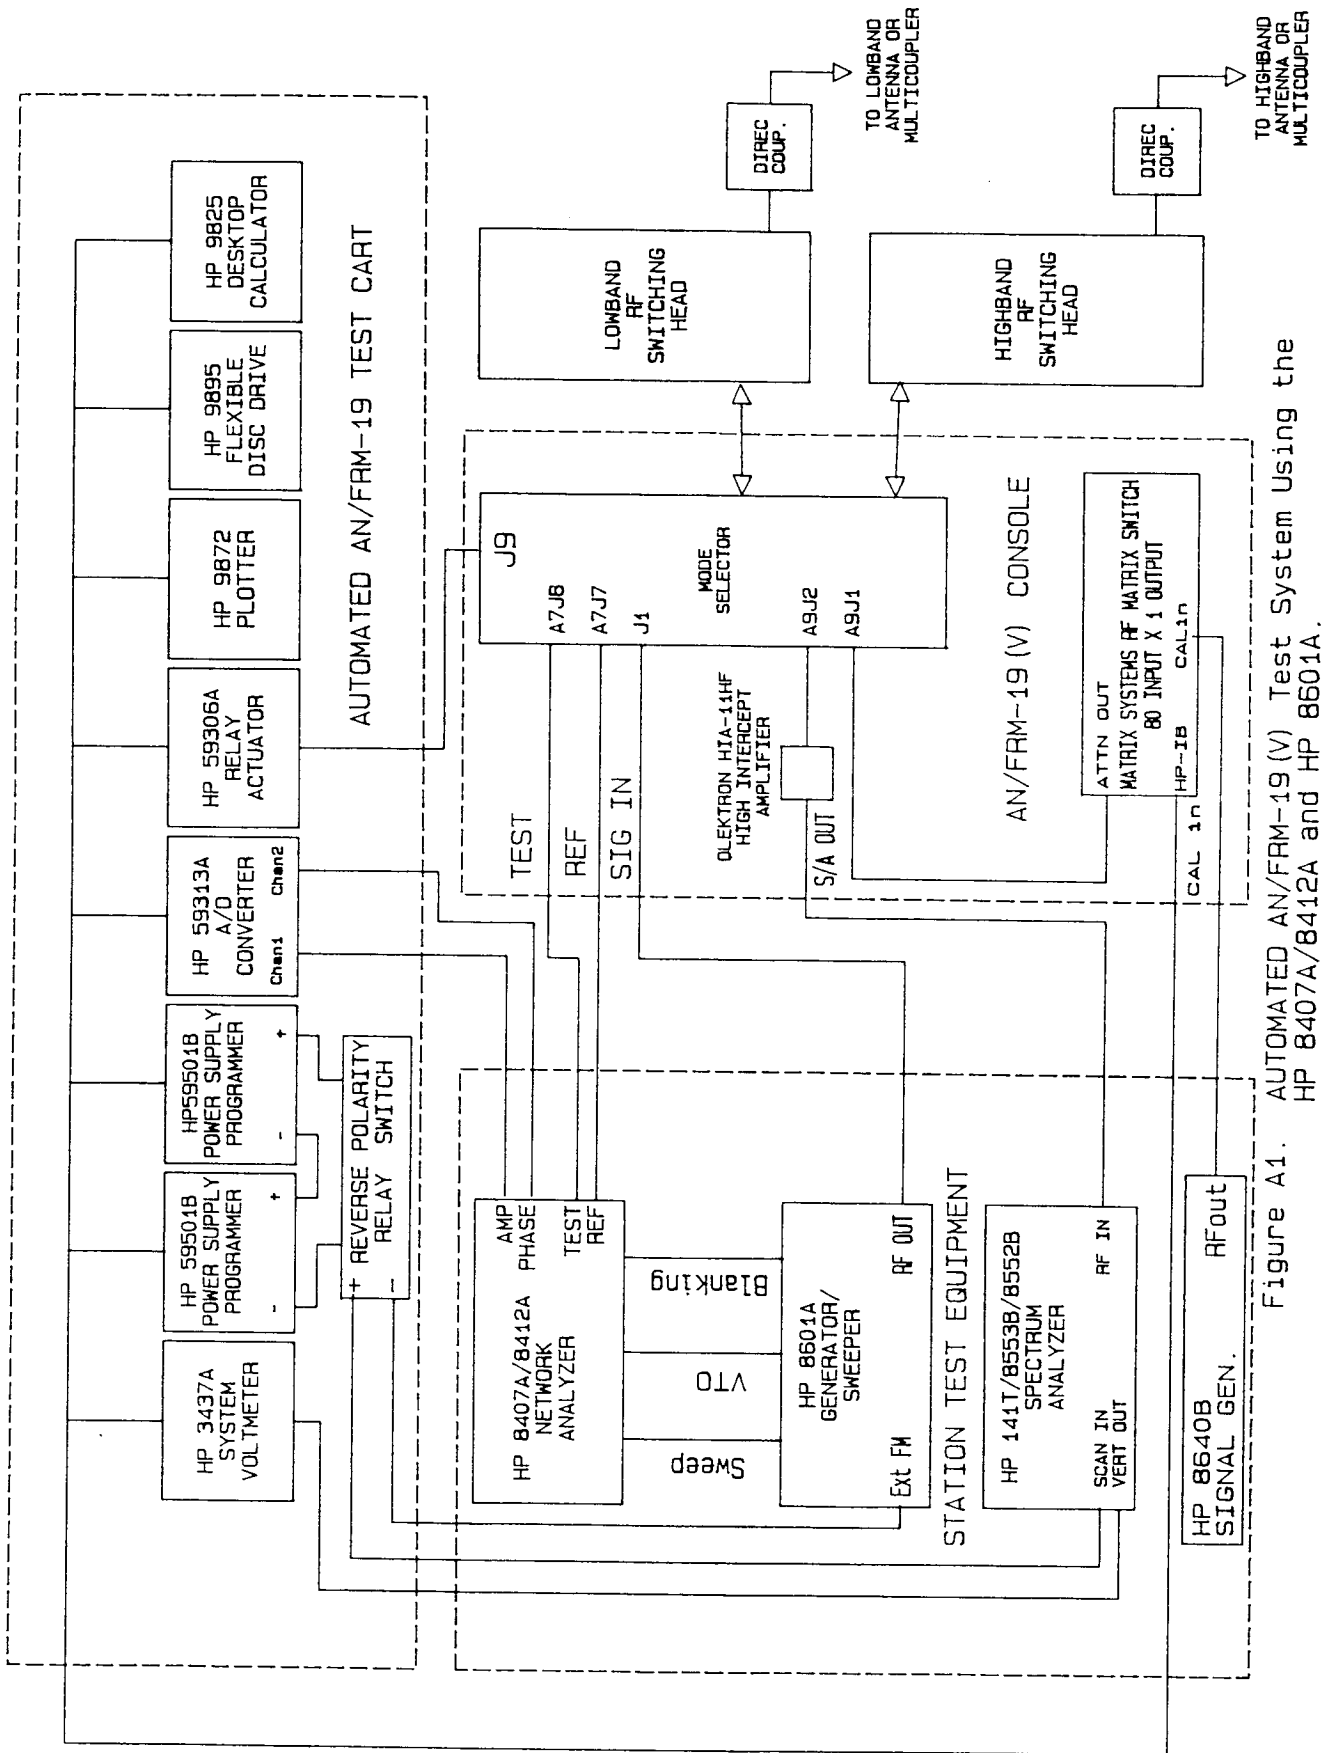

Figure A1. AUTOMATED AN/FRM-19 (V) Test System Using the HP 8407A/8412A and HP 8601A.
Testing and analysis are the two main functions of the AUTOMATED AN/FRM-19(V) Test System. In order to understand the basic mechanics of the automated testing process, it should be remembered that the HP 8407A/8412A Network Analyzer and HP 8601A Generator/Sweeper are not fully programmable and that the HP 9825T Calculator utilizes interfacing equipment to both control and read measurements from these test equipment. The HP 8407A/8412A and HP 8601A can also be replaced by an HP 3577A Network Analyzer which is fully programmable and interfaces directly with the HP 9825T Calculator. Figures A1 and A2 are block diagrams of the AUTOMATED AN/FRM-19(V) Test System using either the HP 8407A/8412A and HP 8601A or the HP 3577A, respectively. Table A1 lists the components shown in Figures A1 and A2 and describes their function. Table A2 is a list of test equipment for the AUTOMATED AN/FRM-19(V) Test System.